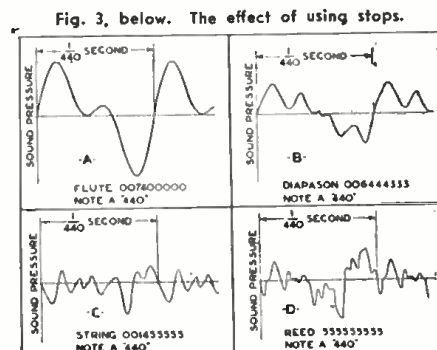

Fig. 3, below. The effect of using stops.
What happens when the stops are placed in various positions is graphically illustrated in Fig. 3. Here are the four fundamental families of tone. These tones are: (A) flute; (B) diapason—the fundamental tone of the organ; (C) string; and, (D) reed. (The note in each of the four cases is the International "A" of 440 cycles.)